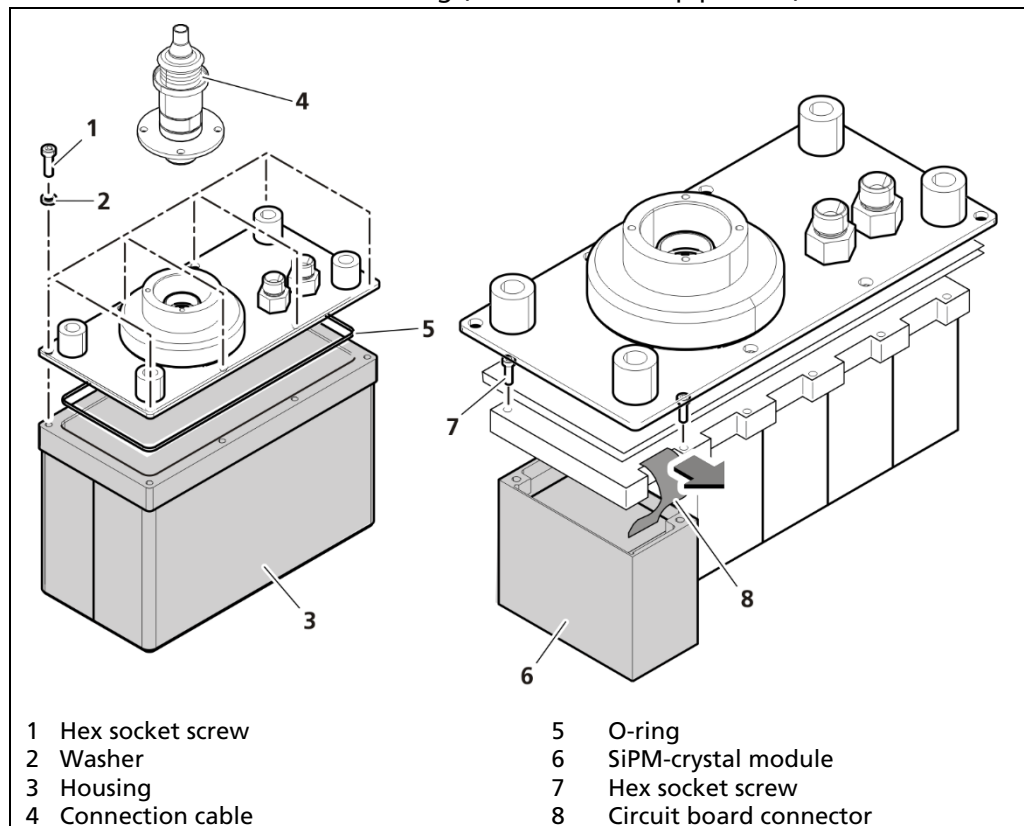

Fig. 32 Replace SiPM-crystal module
1. De-energize the detector CONGAUGE LB 6755 by pulling off the plug at the detector. Remove the connection cable (Fig. 32, Pos.4).
2. Loosen the hex socket screws (Fig. 32, Pos.1) and remove the housing (Fig. 32, Pos.3) and the O-ring (Fig. 32, Pos.5).
3. Unplug the circuit board connector at the electronic part (Fig. 32, Pos.8).
4. Loosen screws (Fig. 32, Pos.7) and remove SiPM-crystal module (Fig. 32, Pos.6).
5. Replace and screw (Fig. 32, Pos.7) SiPM-crystal module (Fig. 32, Pos.6) and plug the circuit board connector (Fig. 32, Pos.8).
6. Refit the O-ring (Fig. 32, Item 5) and screw the housing on (Fig. 32, Item 5).